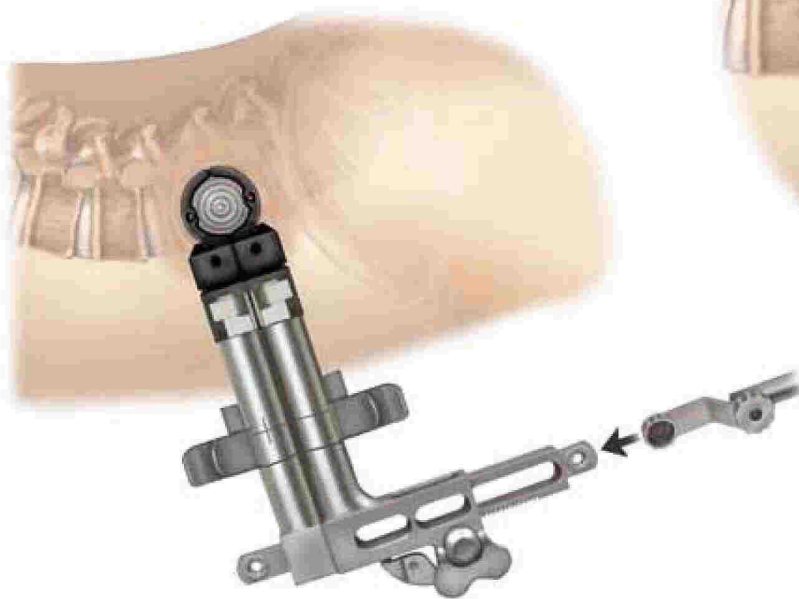

Figure 21
**Step 3** The Retractor Assembly is then attached to the Flexible Arm using the Rotating Flex Arm Attachment to provisionally maintain retractor position (Figure 21).